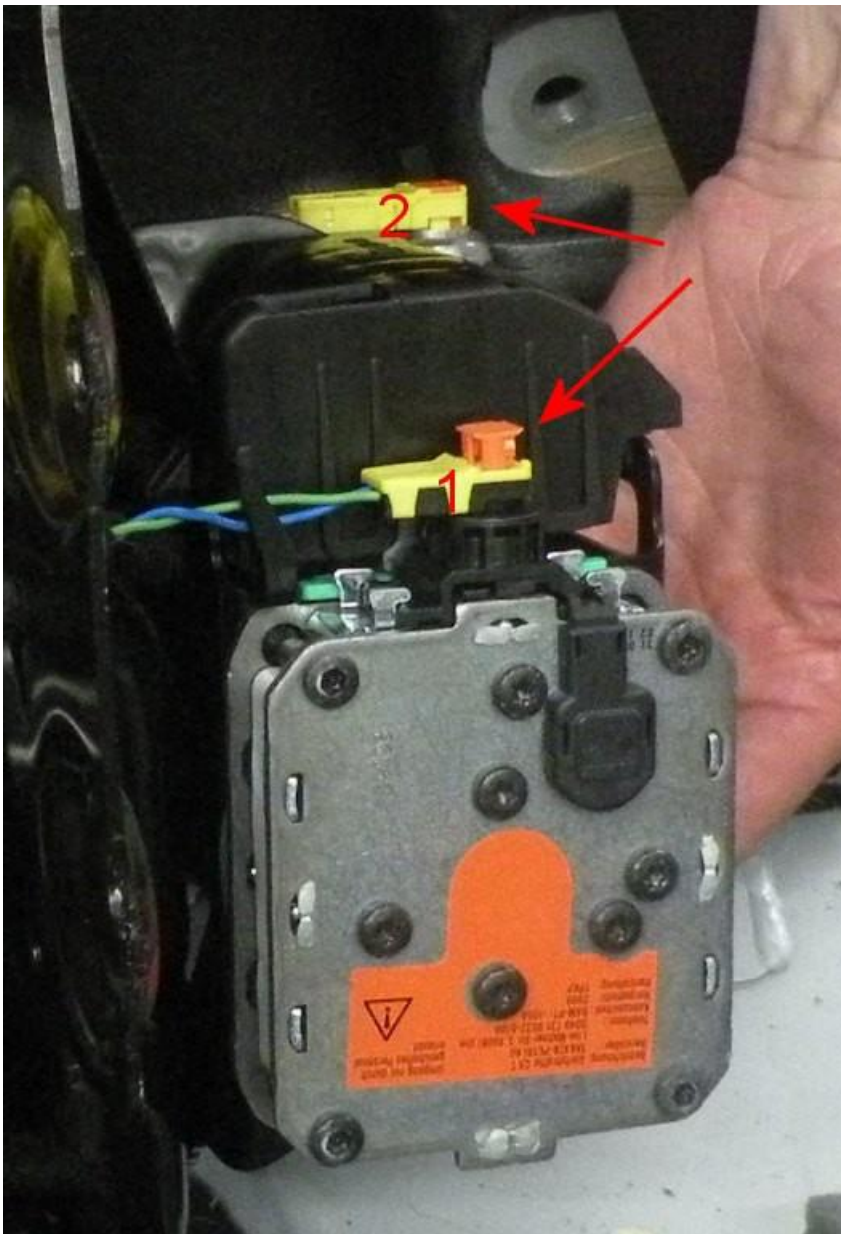

Figure 6
15. Disconnect the two electrical connectors (arrows) from the load limiter and pre-tensioner. The pre-tensioner plug housing is yellow and black (1), the load tensioner plug housing is all yellow (2). Note: Lift the orange keeper up before attempting to release the connectors from the seat belt assembly (see Figure 6)